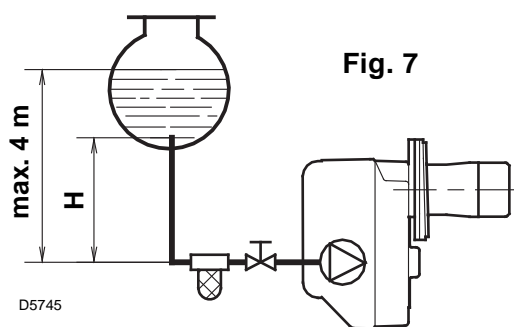
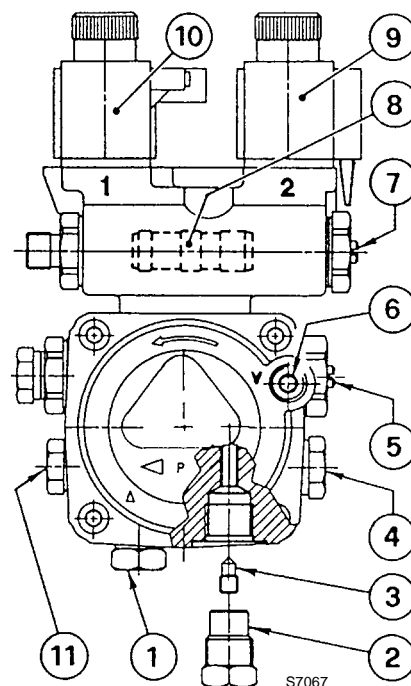

Fig. 7
Fig. 8
- The pump is designed to allow working with two pipes. In order to obtain one pipe working it is necessary to unscrew the return plug (2), remove the by-pass screw (3) and then screw again the plug (2), (see fig. 8).
On the system in fig. 7 it is sufficient to loosen the suction gauge connection (6, fig. 8) and wait until oil flows out.